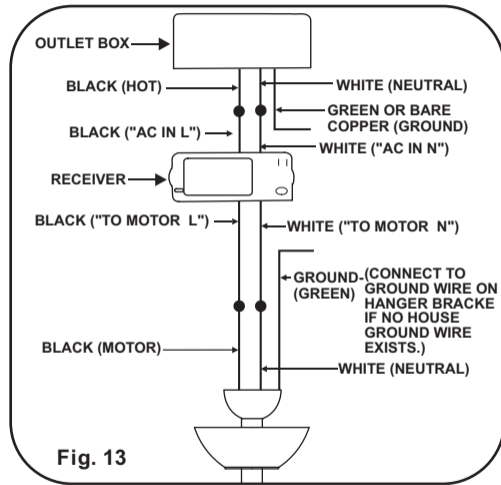

Fig. 13
Step 3. Receiver to House Supply Wires Electrical Connections: Connect the **WHITE** wire (Neutral) from the outlet box to the **WHITE** wire marked "AC in N" from the receiver. Connect the **BLACK** wire (Hot) from the outlet box to the **BLACK** wire marked "AC in L" from the receiver. Secure all wire connections with the plastic wire nuts provided. (Fig. 13)
Step 4. If your outlet box has a **GROUND** wire (Green or Bare Copper) connect this wire to the Hanger Ball and Hanger Bracket Ground wires. If your outlet box does not have a Ground Wire, then connect the Hanger Ball and Hanger Bracket Ground Wires together. Secure wire connection with the plastic wire nut provided. (Fig. 13)